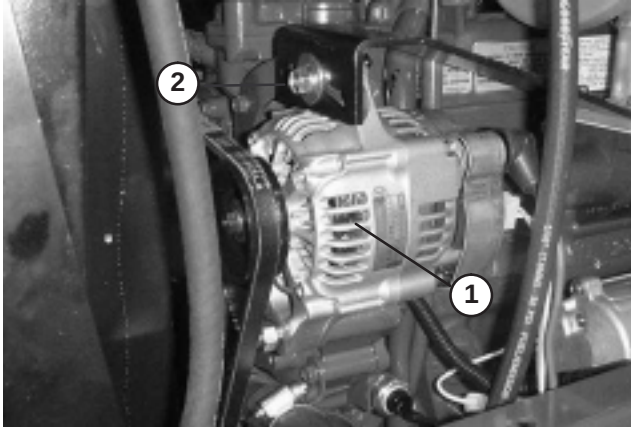

Figure 45
1. Condition and Tension – Check condition and tension of belts (Fig. 45) after every 100 operating hours.